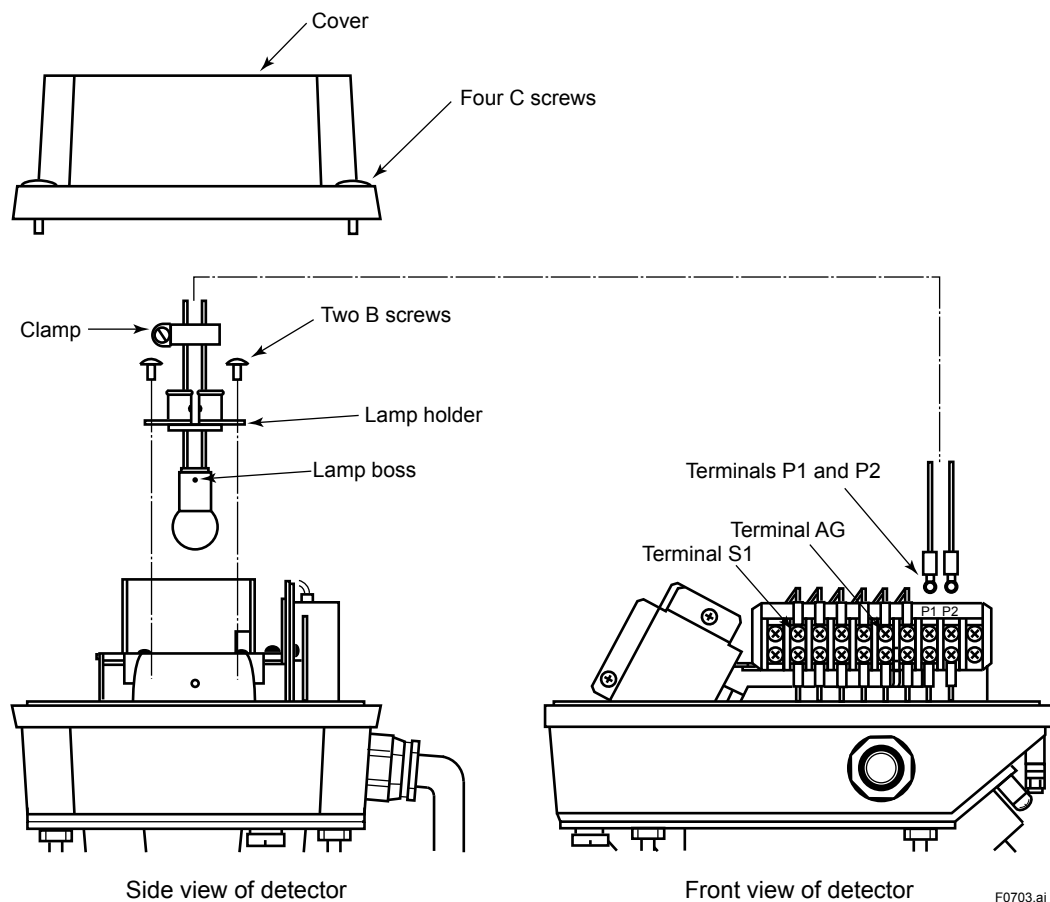

Figure 7.2 Lamp replacement
- (1) Turn off the power switch.
- (2) Remove the four C screws in the upper part of the detector and remove the cover (see Figure 7.2).
- (3) Disconnect terminals P1 and P2 by removing them from the terminal board and remove the two B screws, then remove the lamp holder.
- (4) Loosen the clamp that locks the lamp.
- (5) Replace the lamp. In doing this, confirm that the boss of the new lamp is placed in the position shown in Figure 7.2.